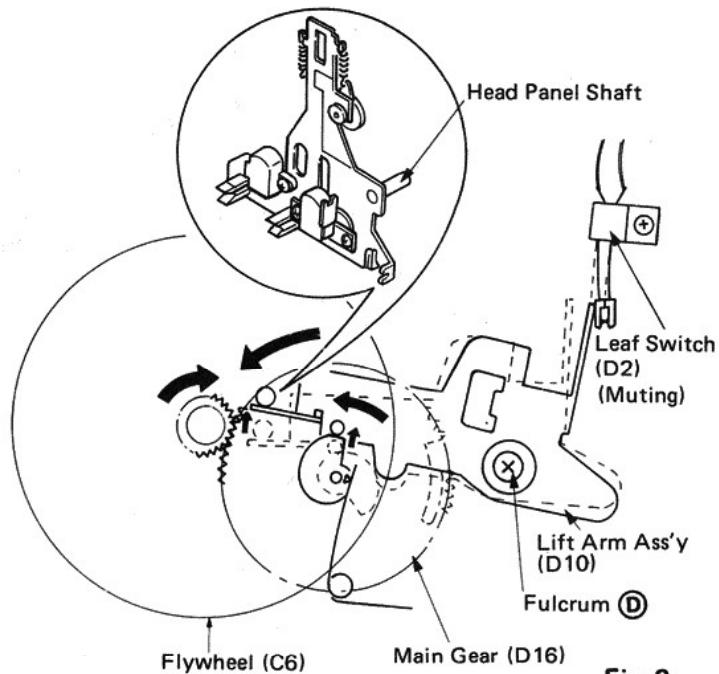

Fig. 3
- 4 As the main gear (D16) rotates, its cam raises the lift arm assembly (D10) pivoting on fulcrum ④.
- 6 Forward and backward motions of the head panel assembly are made by the head panel shaft. (Fig. 3)